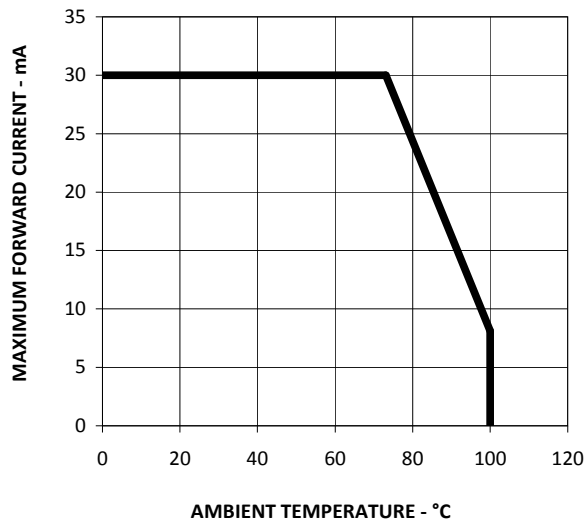

Figure 4. Maximum Forward Current Vs. Ambient Temperature. Derated Based on $T_{JMAX} = 110^{\circ}\text{C}$, $R\theta_{JA} = 300^{\circ}\text{C/W}$
1. Derate linearly as shown in Figure 4.